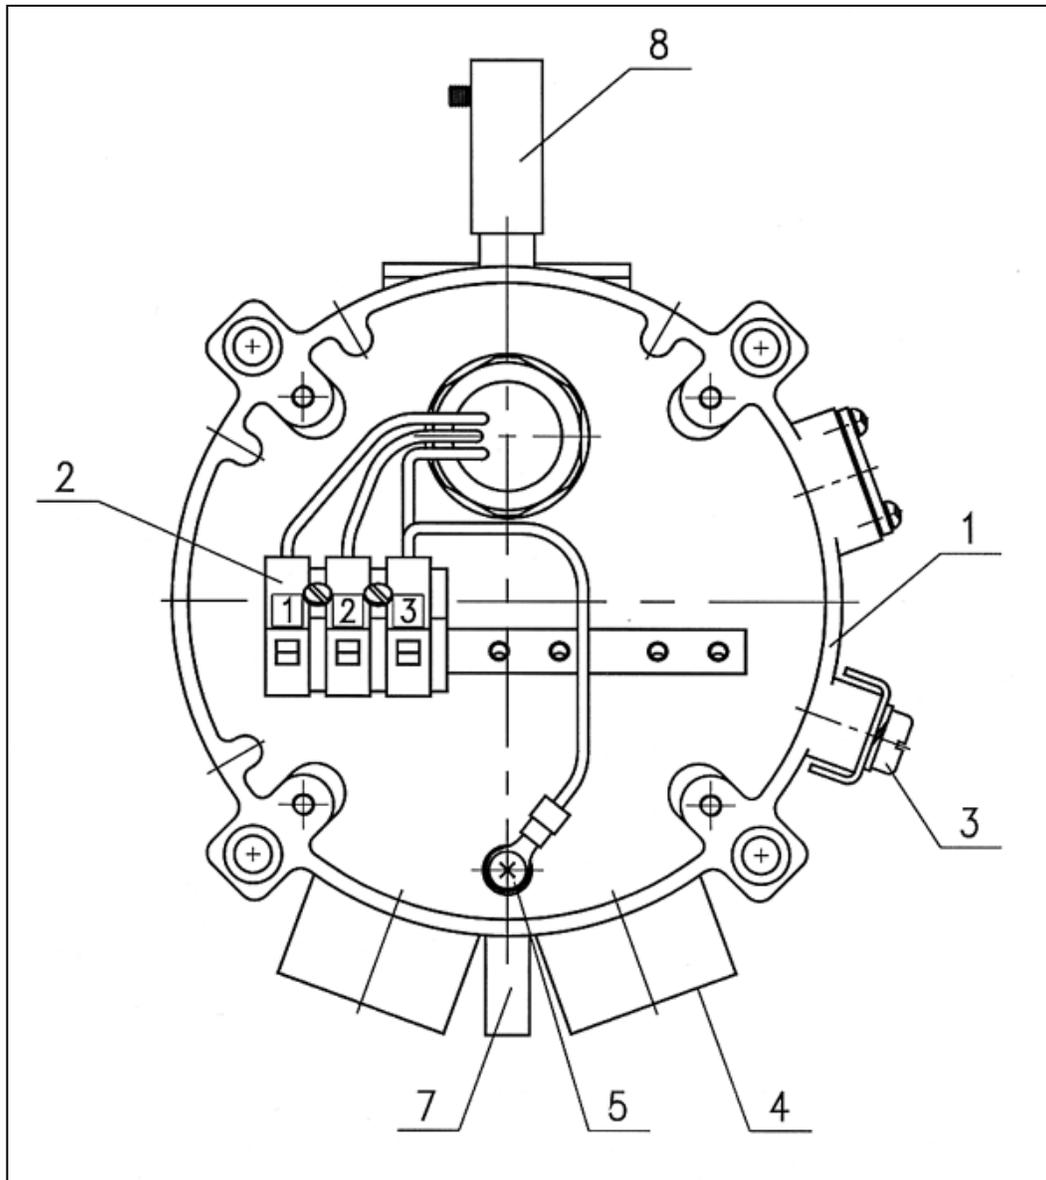

Figure 7: Source with Cover Removed
- 2 Remove the protective plug mounted on the source conduit/cable entry inlet; pull the wires through the source inlet (Item 4, Figure 7). Use a 3/4" – 14NPT or M25x1.5 explosion-proof conduit connection/cable gland to assemble the cable/explosion-proof conduit to the source.
- 3 Connect the wires to the required terminals (Item 2, Figure 7) (See *Terminal Wiring*, page 53).
- 4 Connect the ground wire to the ground screw outside the source (Item 3, Figure 7). The source must be well grounded to earth ground.